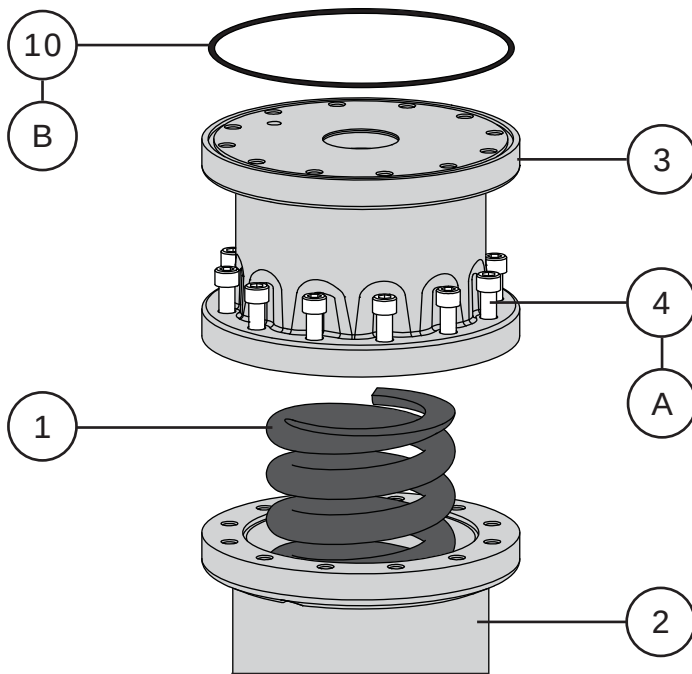

Figure 21 3220-4 Spring Case Adapter
- 1 Carefully lower the spring (Key 1) into the yoke (Key 2) through the top opening. Refer to Figure 21.